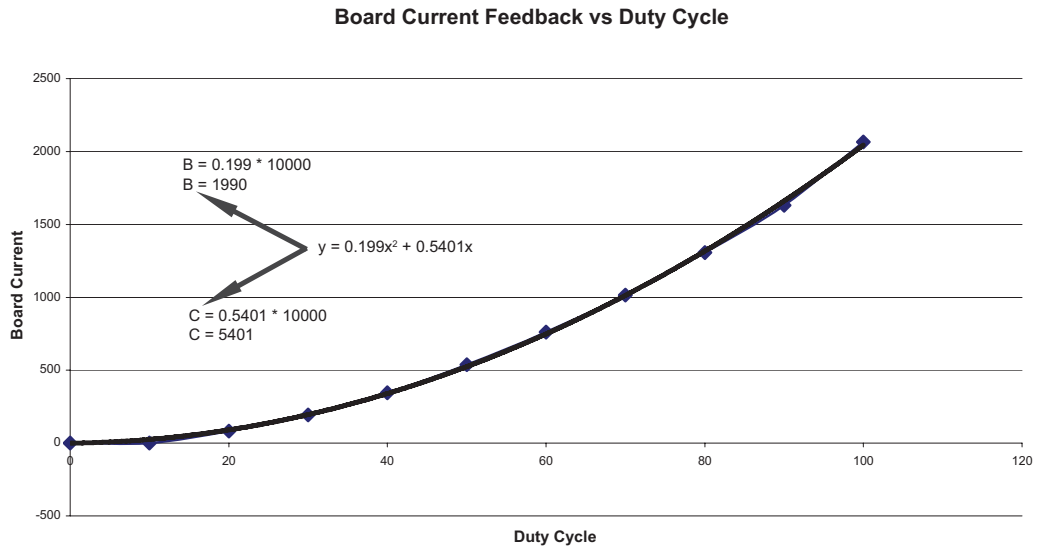

Figure 11
13. Once the data is recorded, plot two X-Y graphs to view as the examples below (Figure 11) Board Current Feedback vs Duty Cycle and (Figure 12) Flyback Current vs Duty Cycle.
15. In this example (**Figure 11**), the equation of the trend line from the *Board Current Feedback vs Duty Cycle* ( $y = 0.199x^2 + 0.5401x$ ).